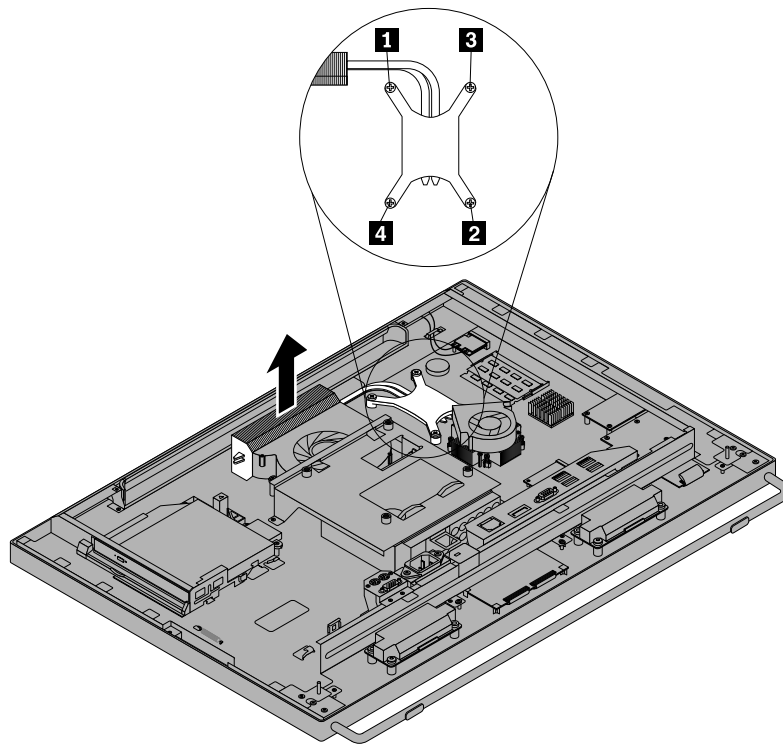

Figure 27. Removing the heat sink
8. Follow the following sequence to install the four screws to secure the heat sink, as shown in Figure 27 “Removing the heat sink” on page 49.